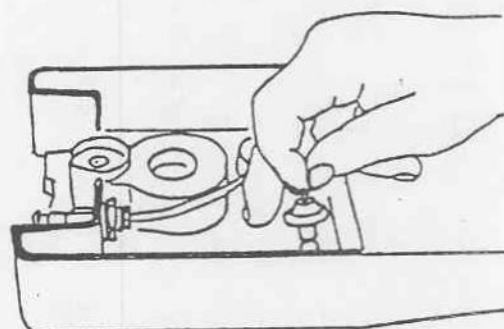
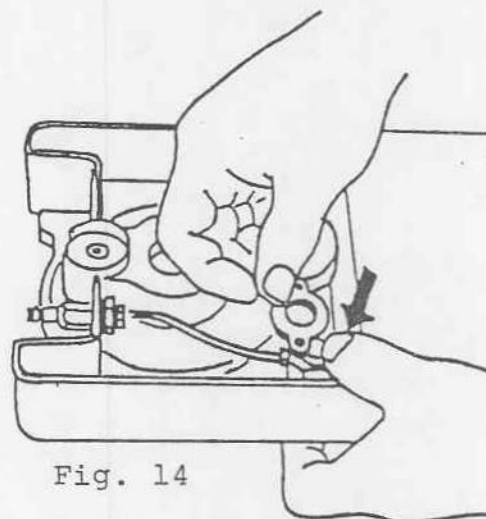

Fig. 13
Fig. 14
7. Press the piston no. 150009 with the diaphragm no. 150047 into the spring. The needle should turn away from the frame. Press down the piston as much as possible against the spring (fig. 13). Attach the diaphragm on the edge while the piston is in the bottom position and create a negative pressure in the system simultaneously. The negative pressure will keep the piston in the bottom position, and the valve housing with shutters and O-rings can be fitted on. As soon as the housing has been placed correctly, the negative pressure may be removed while the housing is being held down against the spring resistance during the fitting of screws, bracket and bushings (fig. 14).
9. Test the pump as described in the directions for use (8).